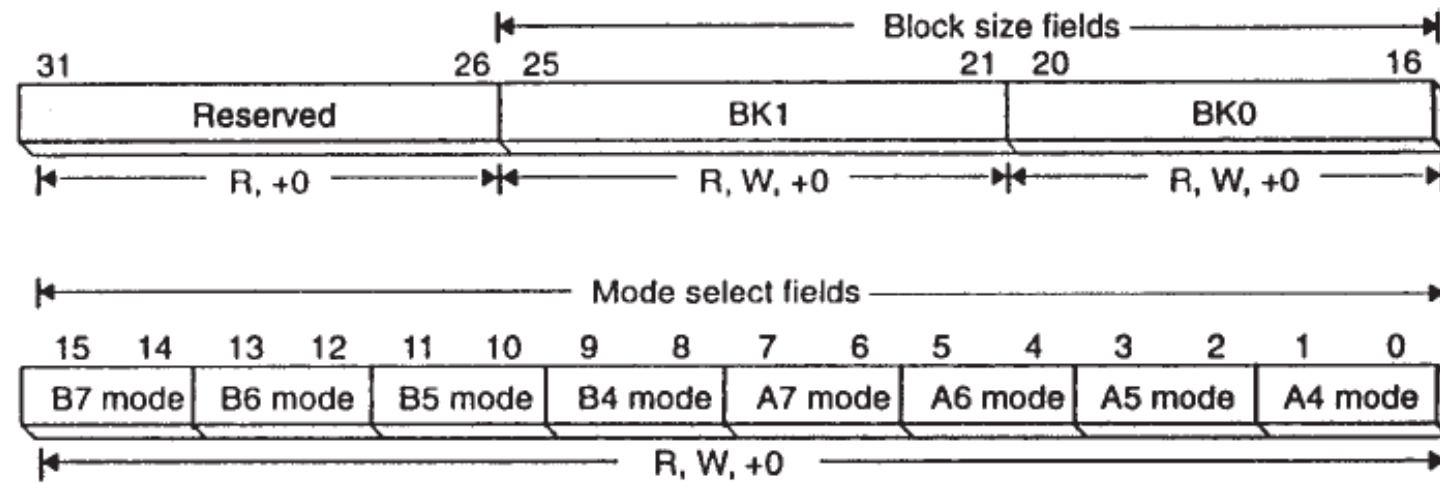

FIGURE B.1. Address mode register (AMR). (Courtesy of Texas Instruments)
A number of special-purpose registers available on the C6x processor are shown in Figures B.1 to B.8 [1].
1. Figure B.1 shows the address mode register (AMR) that is used for the circular mode of addressing. It is used to select one of eight register pointers (A4 through A7, B4 through B7) and two blocks of memories (BK0, BK1) that can be used as circular buffers.